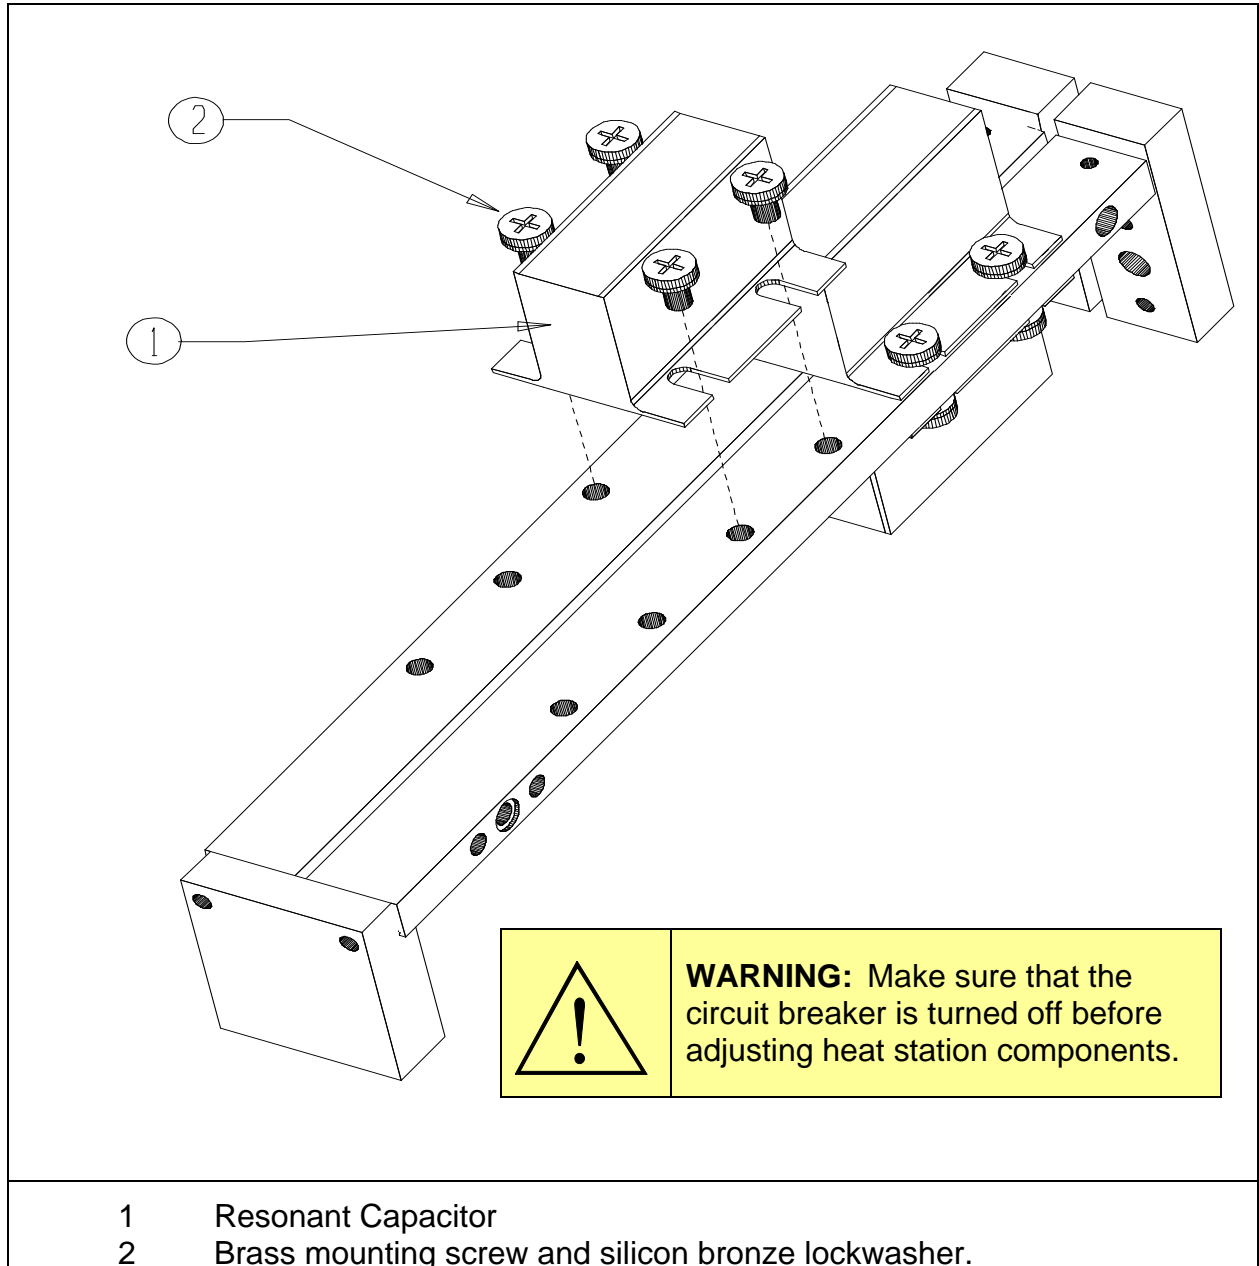

Figure 3: Changing the capacitors
Apply a thin layer of thermal grease to both tabs of each capacitor and install as indicated by ① in Figure 3 on. Insert and tighten the mounting screws (four per capacitor). Capacitors can be mounted to both sides of the capacitor rails, and optimum current sharing is achieved when capacitors are directly opposing each other on the capacitor rail.